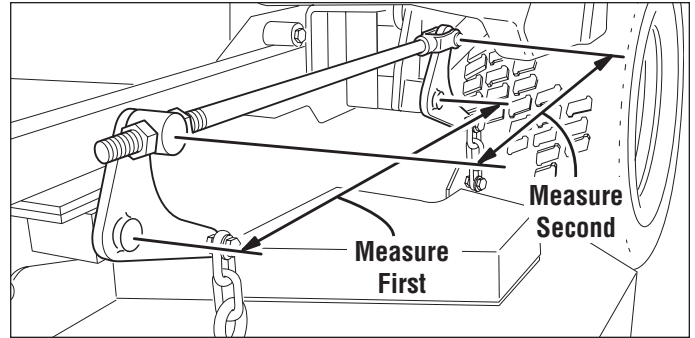

Figure 32. Check Lift Rod Timing
2. To check the lift rod timing, measure and record the distance between the lift pivots and the rod pivots. Repeat for other side of unit. See Figure 32.